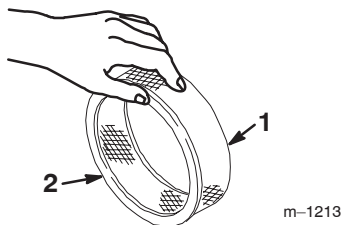

Figure 18
- Lightly tap the paper filter on a flat surface to remove dust and dirt (Fig. 18).